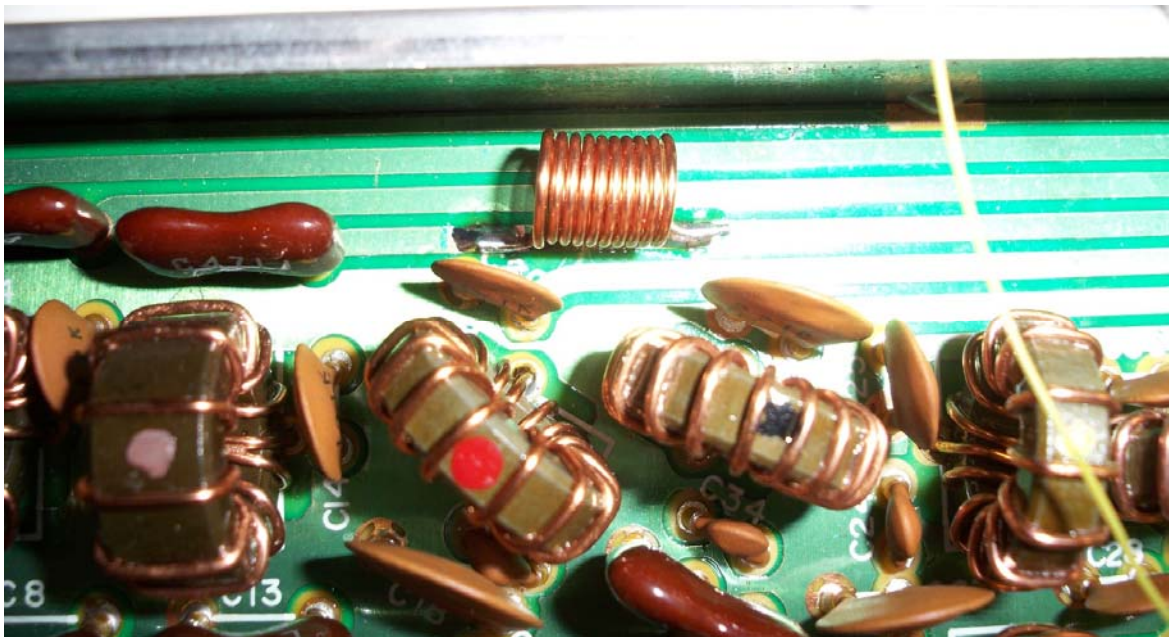

Figure 4. L15 installed in new position.
- 6) Install L15 as shown in Figure 4.